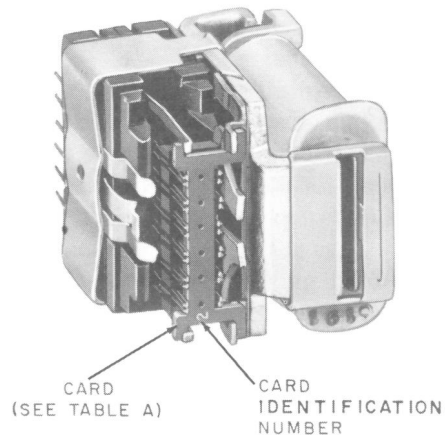

Fig. 3—6-Position Relay—Cover Removed
*The identification number is stamped and located in the lower center of each card when the card is properly mounted on the relay, as shown in Fig. 3. The number stamped on the upper center of the card is the molding cavity identification number and is used for manufacturing purposes only. Order the replacement card by the piece-part number corresponding to the identification number on the card to be replaced.
are positioned as covered in (2) and (3), respectively. Then, hold the card with the number designation positioned in accordance with Fig. 3 or 4 and insert the card between the insulator and twin break springs as follows: Using the edge of the card associated with the twin make springs, press the card against the insulator, adjacent to the twin make contacts. This will increase the gap between the insulator and twin break springs and provide space for inserting the card. Carefully place the card in position, taking care to avoid damage to the spring contacts. Make sure the notches of the armature clamp plate engage the associated tabs on the card and the projections on the balancing spring are aligned with the associated tabs on card. Remove the 749A tool taking care that the balancing spring projections engage the card. Remove the 750A insulator. Remount the contact cover on the relay.